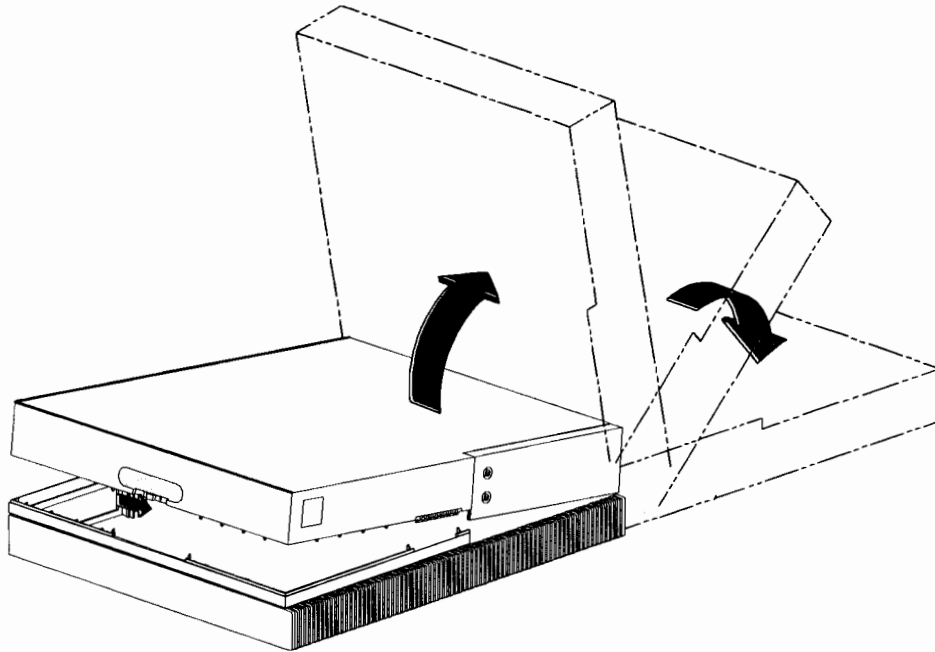

Figure B-4. Opening the System Unit
8. Slide the handle latch to the open position and carefully lift the top cover to fully open the system unit. See Figure B-4.